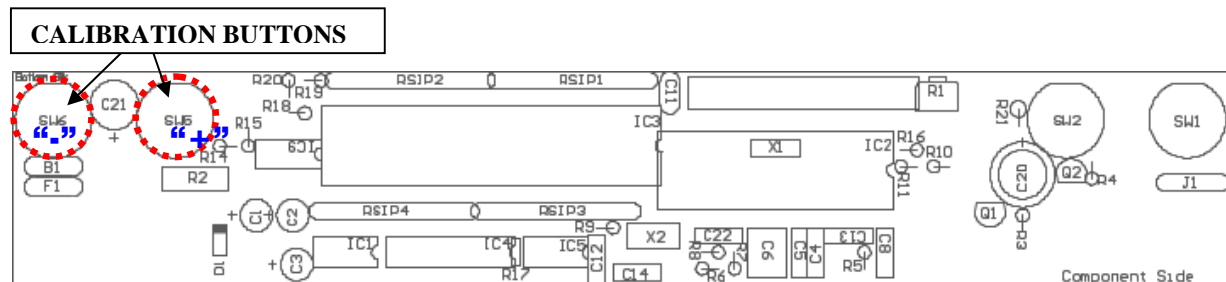

Figure 6: Calibration Button Diagram
STEP 2: (Figure 6) Press and hold both buttons simultaneously (SW5 and SW6).